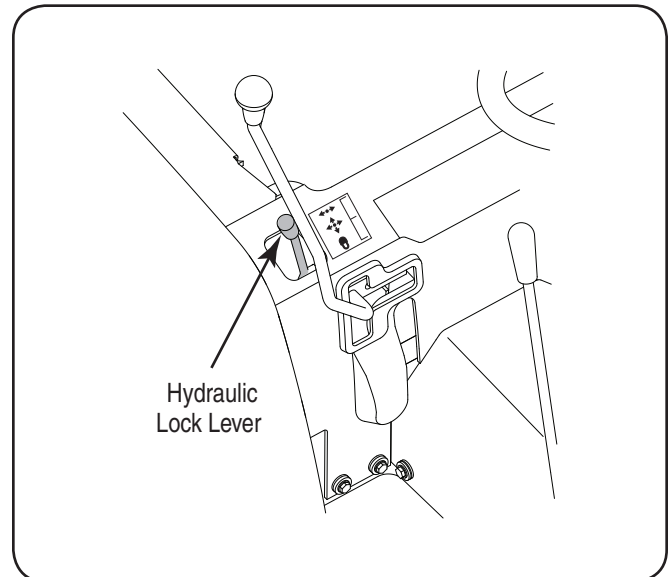

Figure 7
- Shift the tractor’s hydraulic lock lever to the center position. See Figure 7 and refer to the tractor Operator’s Manual.